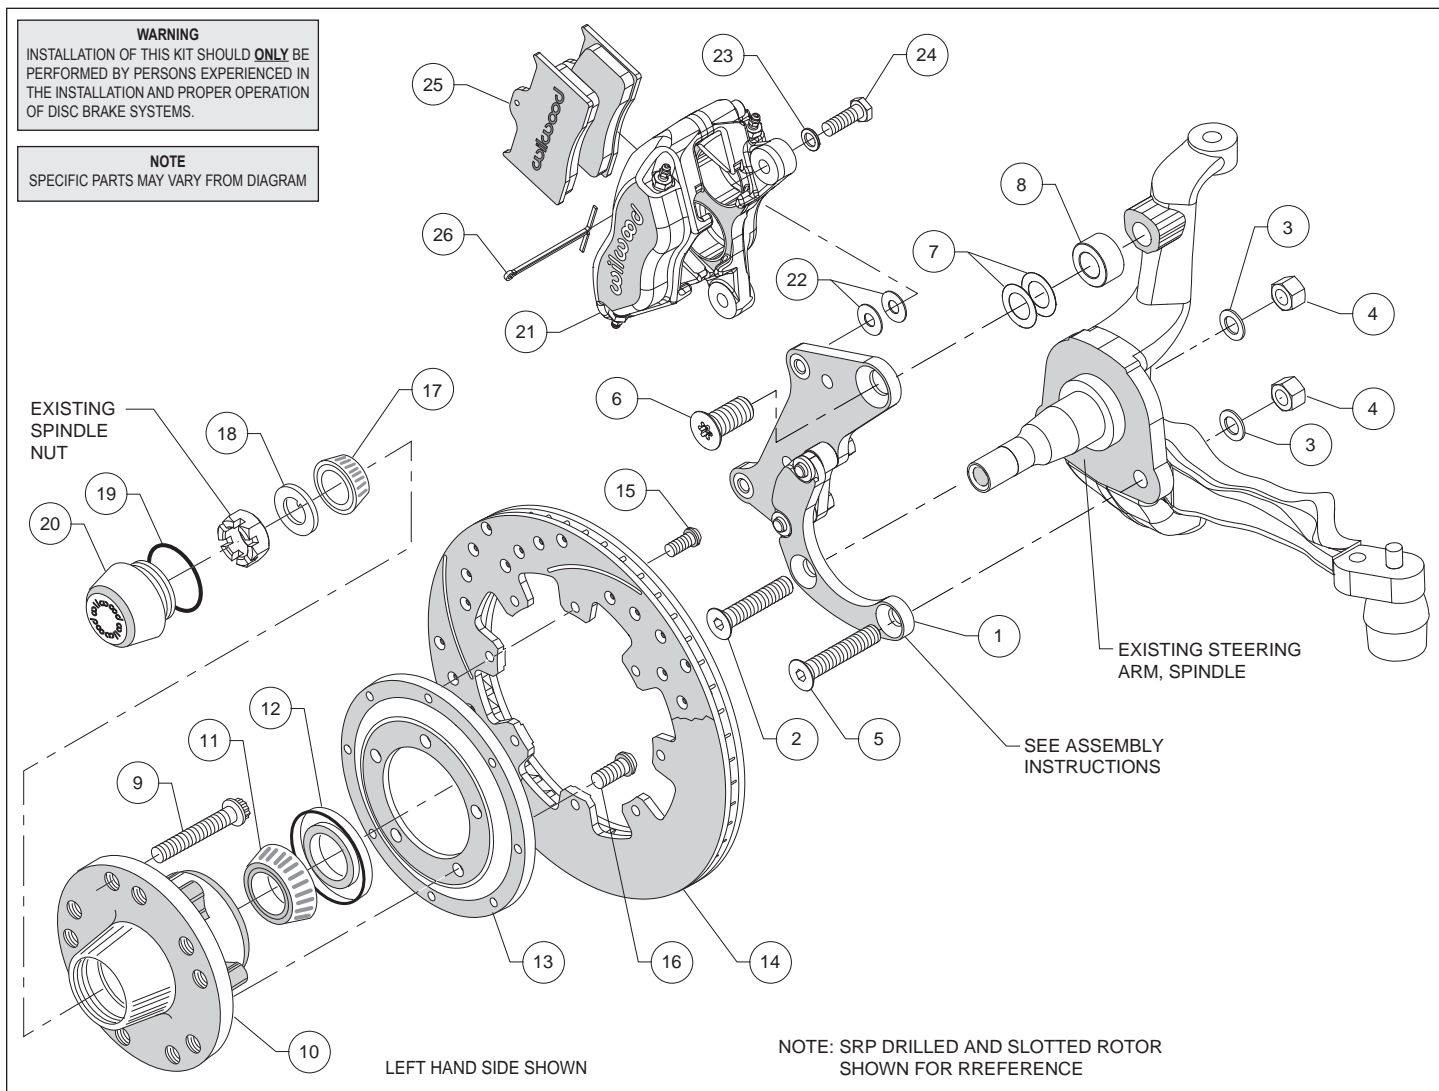
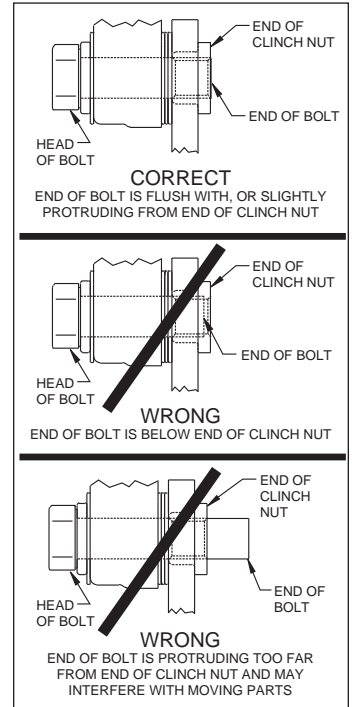

Figure 1. Typical Installation Configuration
Figure 3. Clinch Nut Engagement Diagram
Assembly Instructions (numbers in parenthesis refer to the parts list and Figure 1 on the preceding pages): **CAUTION:** All mounting bolts must fully engage clinch nuts. Be sure to check that all bolts are either flush or protruding through flanged side of clinch nut after shimming, Figure 3.
•The caliper mounting bracket (1) has been assembled at the factory for alignment purposes. Loosen the two bolts that secure the brackets together so that the bolts are hand tight only, this will enable the bracket assembly to be adjusted to accommodate various spindle tolerances during assembly. Align bracket with the two lower holes on the spindle face and attach using bolts (2 and 5), washers (3), and secure using nuts (4), as shown in Figure 1 and Photo 1. Install bolt (6) through top of bracket while placing spacer (8), Impala and Corvette disc spindles (drum spindles do not require spacer (8) and shims (7) between bracket and spindle, Figure 1. Initially place two .010" thick shims (7) on the top bolt between the bracket and upright, Figure 1. Temporarily tighten the mounting bolts. Ensure that the flanged heads of the clinch nuts in the bracket are facing outboard, Photo 1. **NOTE:** The bracket must fit squarely against the mounting points on the spindle and be parallel with the mounting face. If not, add or subtract shims (7) on the top bolt between the bracket and spacer. Inspect for interference from casting irregularities, machining ridges, burrs, etc. Remove lower bolts one at a time, apply red *Loctite*® 271 to the threads, and torque nuts to 77 ft-lb. Remove the upper bolt (6), apply red *Loctite*® 271 to threads, and torque to 140 ft-lb. Remove one at a time the bolts that secure the bracket assembly to each other, apply red *Loctite*® 271 to the threads and torque to 40 ft-lb.
- Install the grease seal (12) by pressing into the backside of the hub (10), flush with the end of the hub, Photo 3.
- Orient the rotor (14) and the rotor adapter (13) as shown in Figure 1 and Photo 4. Attach the rotor to the adapter using bolts (15). Using an alternating sequence, apply red *Loctite*® 271 to the threads, and torque to 25 ft-lb.
- Mount the adapter/rotor assembly (13/14) to the hub (10) using bolts (16), as shown in Figure 1 and Photo 5. Using an alternating sequence, apply red *Loctite*® 271 to the threads, and torque to 55 ft-lb.
- Pack the small outer bearing cone (17) with high temperature disc brake bearing grease and install into hub (10). Slide the hub/rotor assembly onto the spindle. Secure using spindle washer (18) and spindle nut, Photo 6. Adjust bearings per OEM specifications. Install saved OEM nut lock (if any) and a new cotter pin (not supplied).
- Screw dust cap (20) into hub (10), Photo 7. Friction created by the o-ring (19) on the dust cap keeps it from unscrewing. **NOTE:** The O.D. of the existing OEM spindle washer may be larger than the I.D. of the dust cap not allowing it to seat against the hub face. Therefore, use the spindle washer (18) supplied with the kit instead of the OEM washer.
- NOTE:** Please reference the caution statement at the beginning of the assembly instructions. Mount the caliper (21) onto the caliper mounting bracket (1) using bolts (24) and washers (23), as shown in Figure 1. Initially place two .035" thick shims (22) on each bolt between the caliper and the bracket, Photo 8. Temporarily tighten the mounting bolts and view the rotor (14) through the top opening of the caliper. The rotor should be centered in the caliper, Photo 9. If not, adjust by adding or subtracting shims between the bracket and the caliper. Always use the same amount of shims on each of the two mounting bolts. **NOTE:** The end of each bolt must be flush with or slightly protruding from the head of the clinch nut, as shown in Figure 3. If necessary place spare shims between washer (23) and caliper mounting ear to achieve the proper clinch nut engagement. Once the caliper alignment and clinch nut engagement are correct, remove the bolts one at a time, apply red *Loctite*® 271 to bolt threads, and torque to 40 ft-lb.
- Install the disc brake pads (25) into the caliper, with the friction material facing the rotor (14), and secure in place using cotter pin (26), Photo 10.